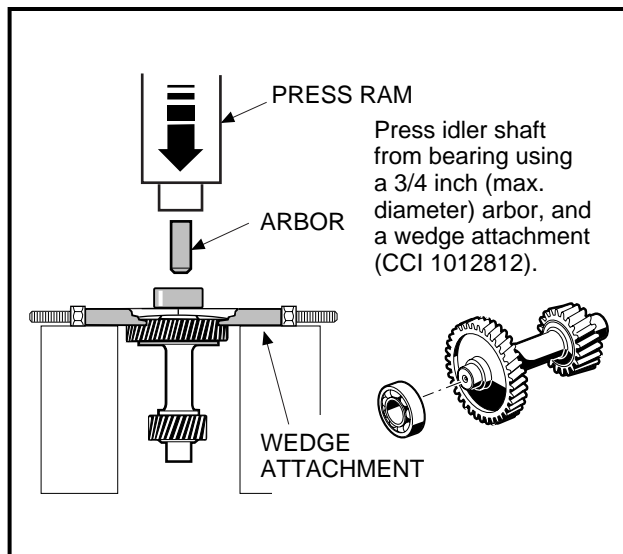

Figure 16-51 Remove Idler Shaft
2. Place a bearing puller wedge attachment (CCI 1012812) between the bearing and the larger gear on the idler shaft, then press the bearing off the shaft as shown (Figure 16-51, Page 16-23).